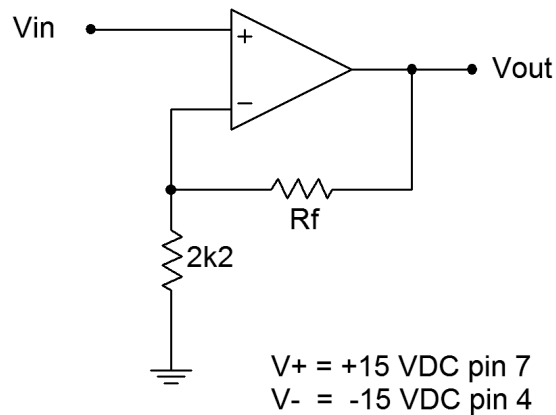

Figure 1
1. Calculate the voltage gains for the amplifier of Figure 1 for the R_f values specified, and record them in Table 1.
3. Assemble the circuit of Figure 1 using the 22k Ω resistor and the slowest op amp.